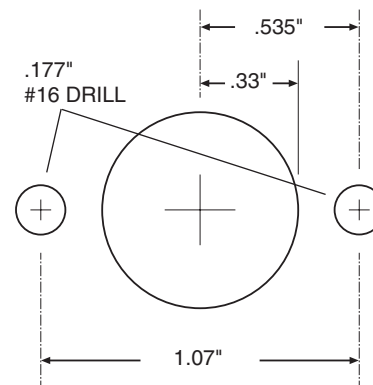

Figure 1:
1. Drill the mounting holes according to **Figure 1**.